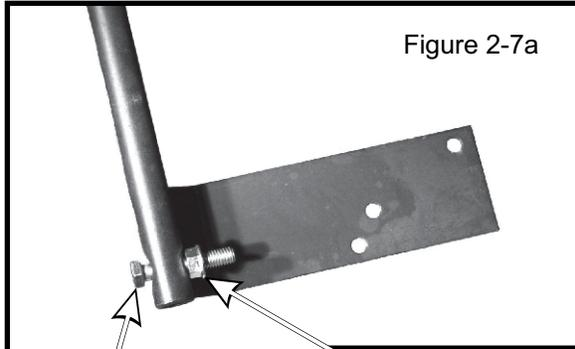

Figure 2-7a
NOTE: Before continuing the lift handle installation, have someone assist you in turning the grass container upside down. Insert (1) 3/8"-16 x 2" HHCS P#(K1208) into the lift handle P#(A0273), and secure with (1) 3/8"-16 flange nut P#(K1215). Thread the flange nut onto the bolt upside down, as shown in Figure 2-7a.